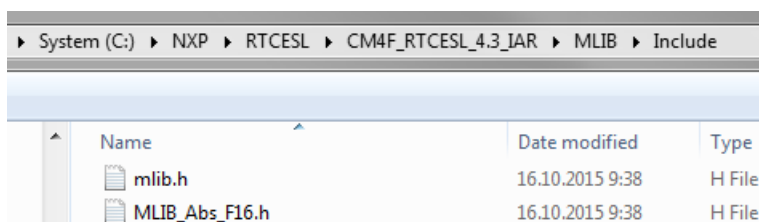

Figure 1-32. Add Files dialog
5. Navigate into the library installation folder C:\NXP\RTCESL\CM4F_RTCESL_4.3_IAR\MLIB\Include, and select the *mlib_fp.h* file. (If the file does not appear, set the file-type filter to Source Files.) Click Open. See Figure 1-32.